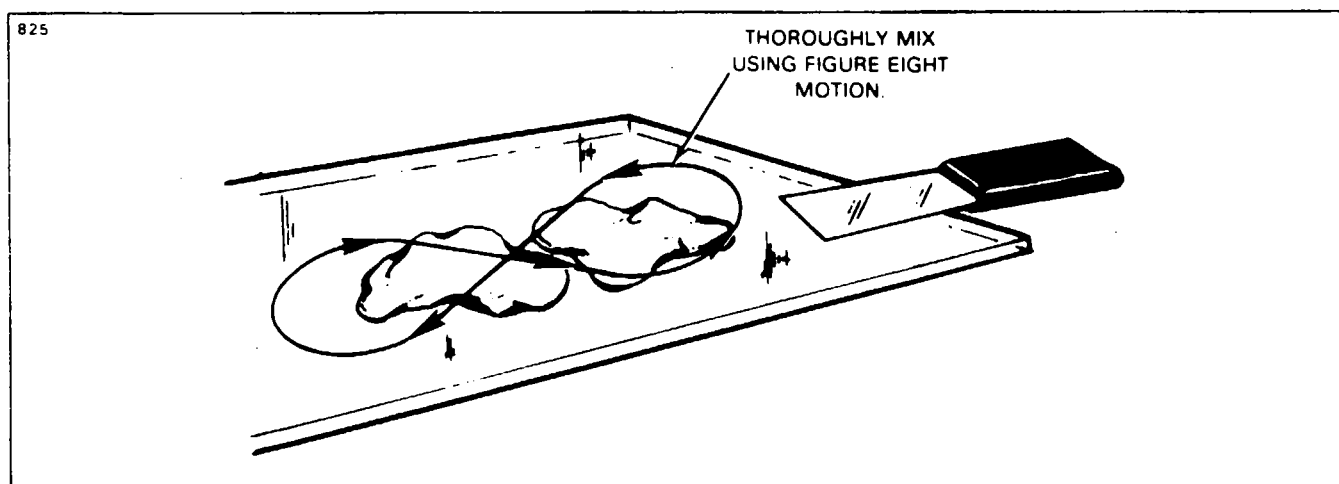

Figure 4-29. Mixing of Epoxy Patching Compound
6. The patching compound is mixed in equal portions on a hard flat surface using a figure eight motion. The damaged area is cleaned with perchlorethylene or VM&P Naptha prior to applying the compound. (Refer to Figure 4-29.)